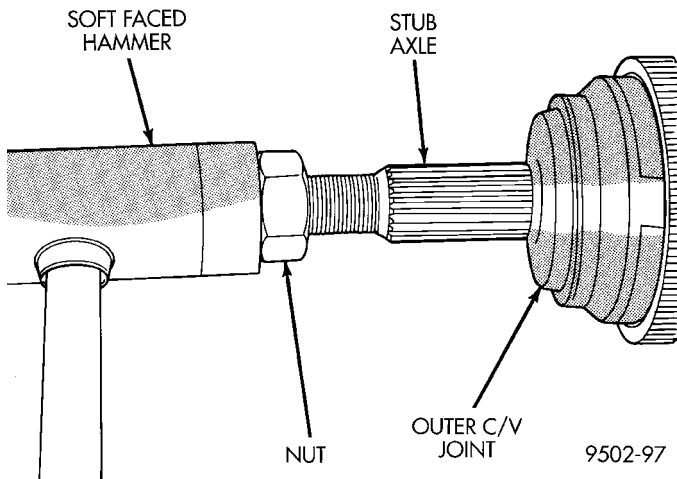

Fig. 48 Outer C/V Joint Installation on Interconnecting Shaft
(2) Align splines on interconnecting shaft with splines on cross of outer C/V joint assembly and start outer C/V joint onto interconnecting shaft.
(3) Install outer C/V joint assembly onto interconnecting shaft by using a **soft-faced** hammer and tapping end of stub axle (with nut installed) until outer C/V joint is fully seated on interconnecting shaft (Fig. 48).